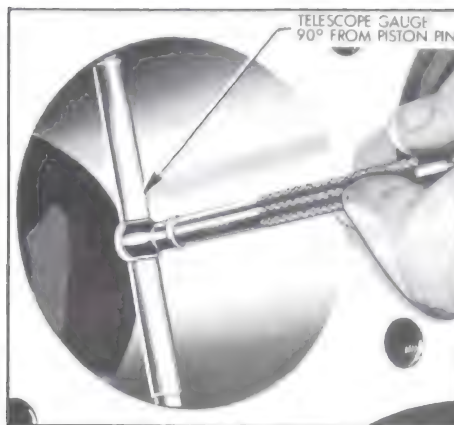

Figure 2-43—Using Telescope Gauge in Cylinder Bore
Before the honing or reboring operation is started, measure all new pistons with micrometer contacting at points exactly 90 degrees to piston pin (Figure 2-43) then select the smallest piston for the first fitting. The slight variation usually found between pistons in a set may provide for correction in case the first piston is fitted too free.
1. Expand a telescope gauge to fit the cylinder bore at right angles to the piston pin and between 1-1/2" and 2" from the top of the bore. See Figure 2-43.